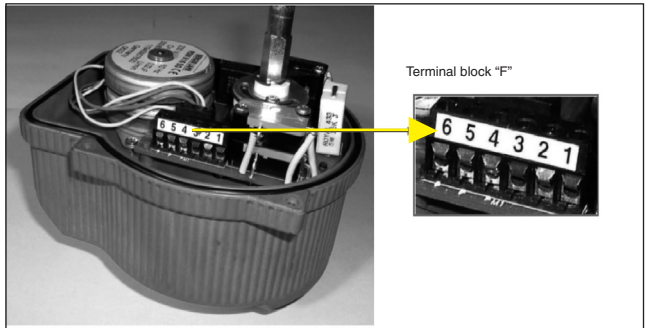

Fig.3 Plate of supply 110-230VAC/DC and particular of terminal block "F"
4.3 Electrical connection for models with supply at 110-230V AC 50/60Hz (fig. 3)